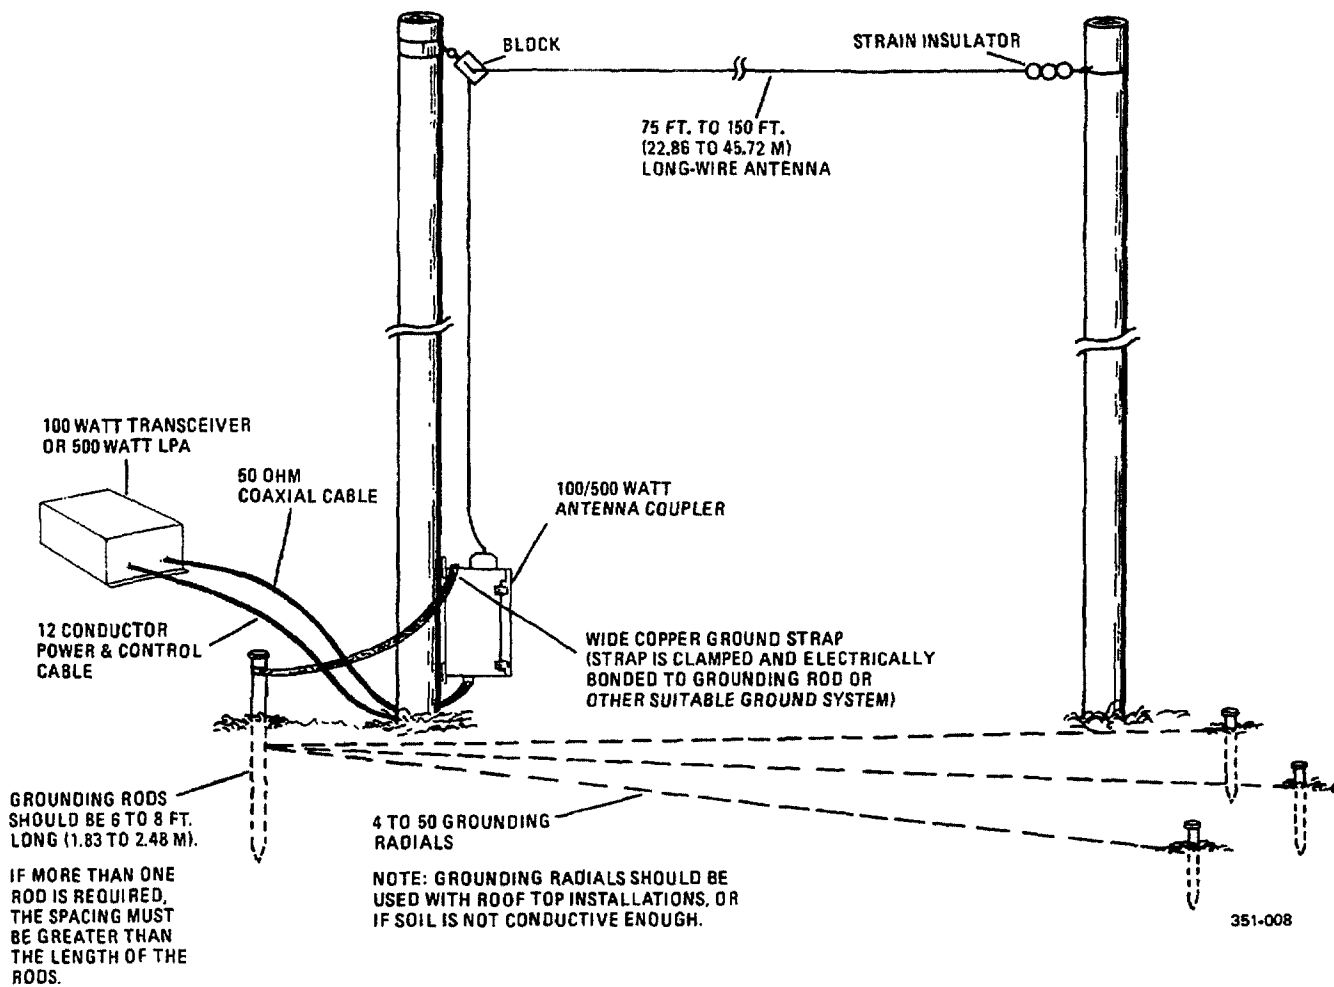

Figure 2-4. Typical 100/500 Watt Antenna Coupler Installation For Long-Wire Antennas
m. Typical 100/500 Watt Antenna Coupler Installation For Long-Wire Antennas. When using 75 or 150 foot (22.86 or 45.72m) long-wire type antennas, it is advisable to mount the 100/500 Watt Antenna Coupler as close to the antenna base as possible. Cable type and installation precautions for this type of antenna installation are basically the same as for whip type antennas. A typical long-wire type antenna installation is shown in figure 2-4.